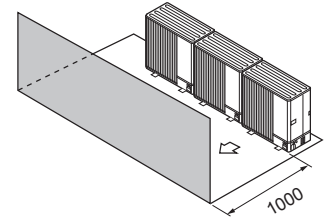

Fig. 1-15
- ③ Obstacles at front only (Fig. 1-15)